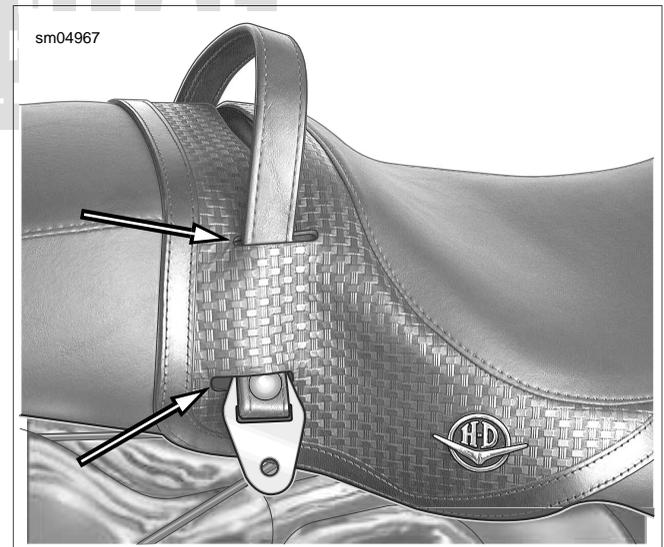

Figure 2-104. Route Passenger Seat Strap Through Slots (FLHRC)
3. Draw free end of passenger seat strap to right side of motorcycle (passing through slots in seat on FLHRC models). See Figure 2-104.
4. Draw free end of passenger seat strap to left side of motorcycle (passing through slots in seat on FLHRC models). See Figure 2-104.